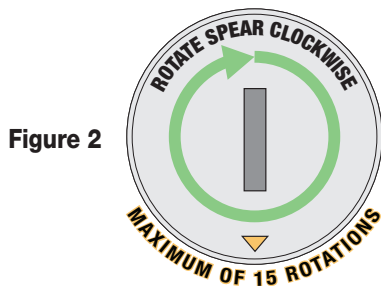

Figure 2
1. Remove spring roller from its headbox (Fig. 2). This single notch spring roller is pre-tensioned and the dog is locked in its notch. To remove, disengage pin end from endcap.
3. If tension is lost, rotate spear clockwise a **maximum** of 15 times to regain tension (Fig. 2).